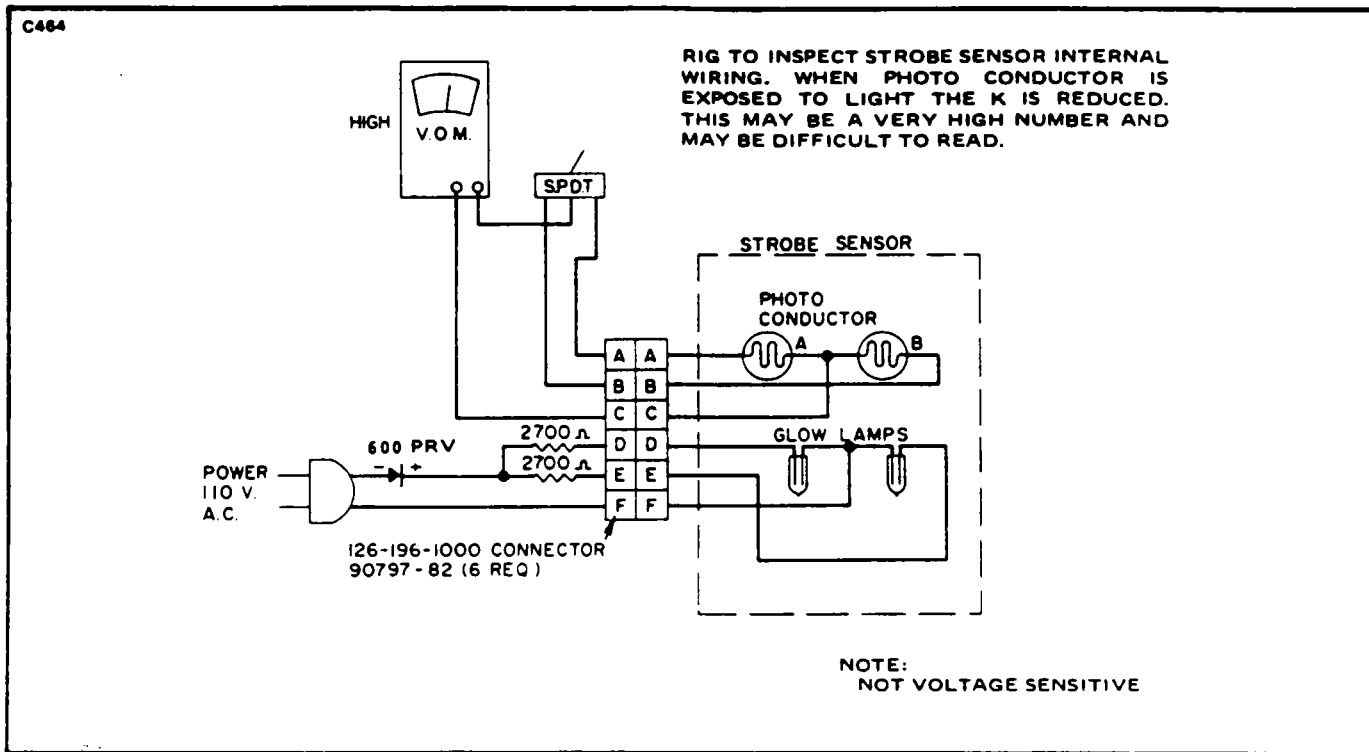

Figure 14-53. Strobe Sensor Internal Wiring Test Unit
- (a) Connect the fabricated strobe sensor tester (Refer to Figure 14-53) to the strobe sensor plug in the right nacelle.